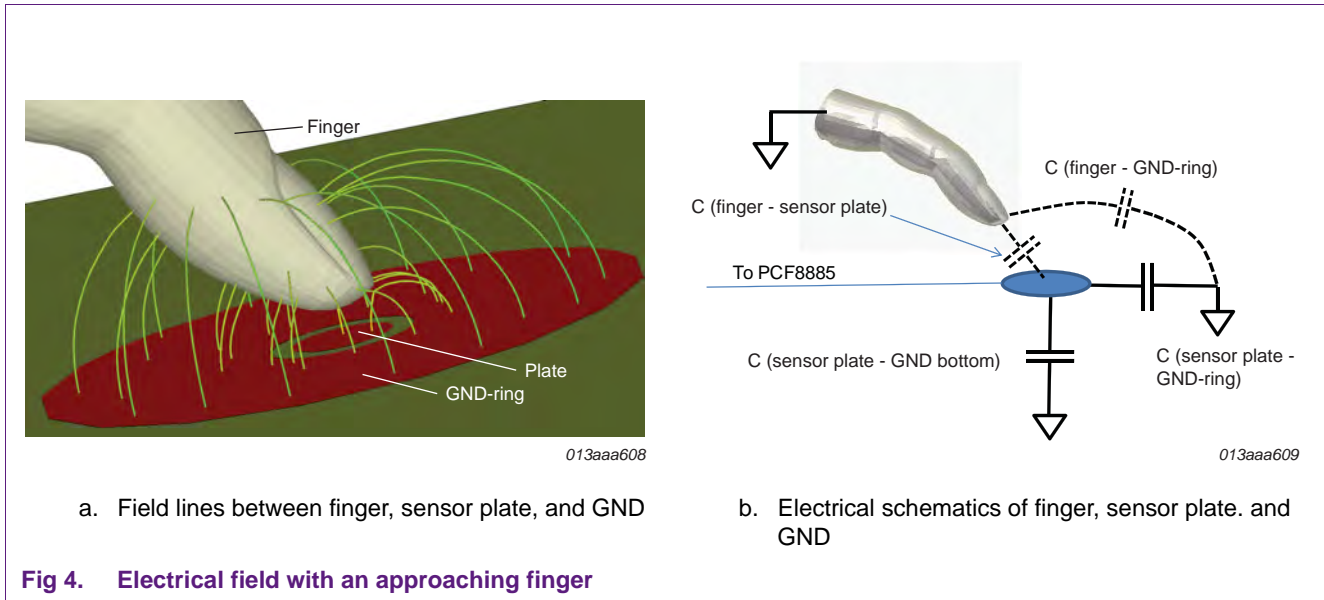

Fig 4. Electrical field with an approaching finger
In order to provide the basics behind layout considerations, the simple round sensor plate in Figure 4 is studied with CST EM Studio, a simulation tool from Computer Simulation Technology. The sensor plate is realized on a 1.5 mm thick PCB with solid GND on the rear side and the sensor plate is surrounded by solid GND. The diameter of the sensor plate is 10 mm, the gap to GND-ring is 2.2 mm and the overlay acrylic is 3 mm thick.
- Fig 4. Electrical field with an approaching finger7